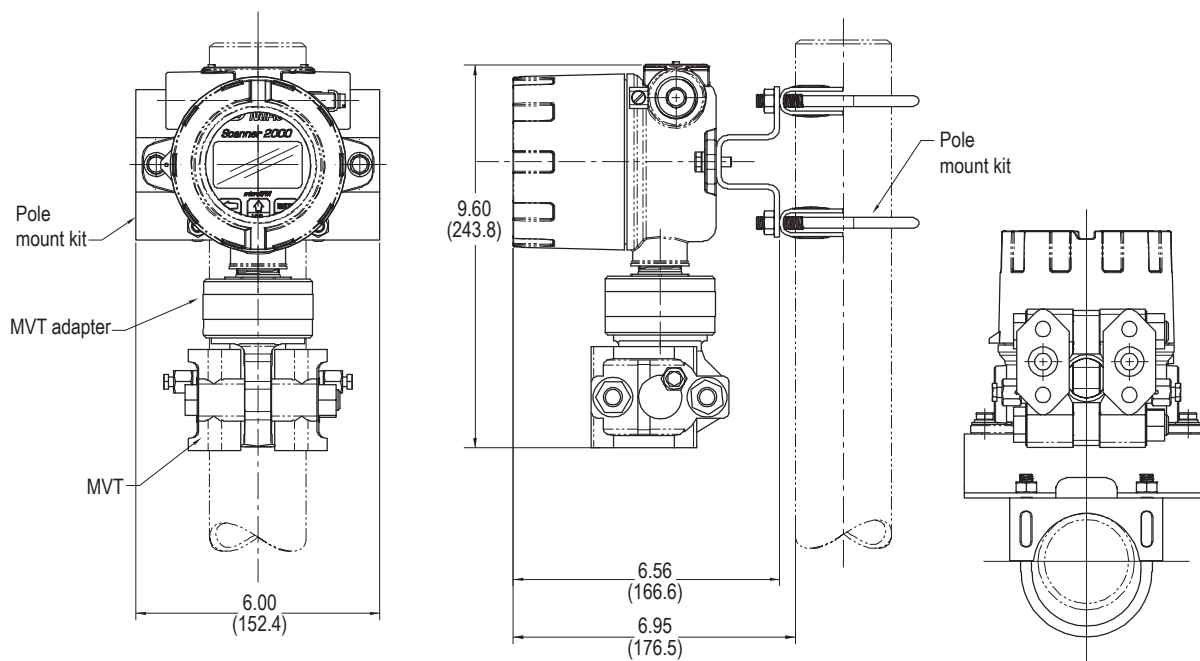

Figure 2.4—Scanner 2000 with MVT, remote-mounted on a 2-in. pole using a NuFlo hardware kit (Part No. 9A-30028004)
- Pole-mount. The instrument can be mounted on a 2-in. pole using a NuFlo hardware kit, or bulkhead-mounted to a flat, vertical surface (Figure 2.4, page 32). Pole mounting may be preferred where limited space or pipe vibration prohibits direct-mount installation. A horizontal pipe mount is recommended for liquid and steam installations using a side-port MVT and block manifold. Tubing is used to connect the integral MVT to the orifice meter or cone meter. If a Scanner 2000 will be used for steam measurement, a condensate pot must also be installed to protect the Scanner 2000 from extreme temperatures. See Measuring Steam via a Differential Pressure Meter, page 40, for details.
2. Connect the mounting bracket to the Scanner 2000 using the two bolts provided (Figure 2.4, page 32).
**Important** The vertical pipe mount configuration shown in Figure 2.4 is not recommended for side-port MVTs when mated with a block manifold for liquid or steam measurement. A horizontal pipe mount should be considered for these installations.